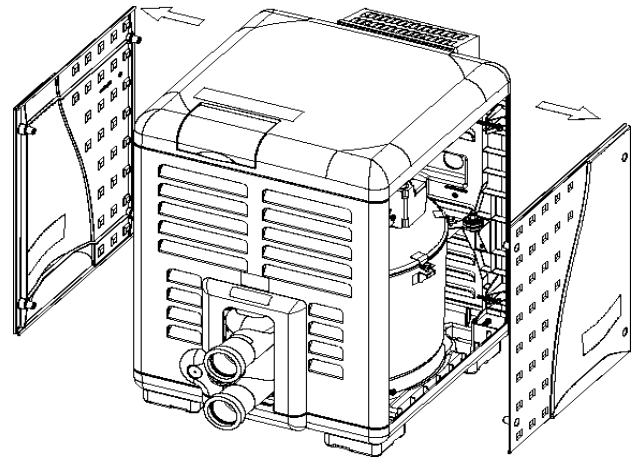

FIGURE 3: Removal of Access Door Panels
5. Remove the access door panels by unfastening the four 1/4-20 phillips head screws located on each door, then lift up and out from the bottom of the panel to remove. If necessary, the screws may be used as handles. See Figure 3.
7. Wait five (5) minutes to clear out any gas. If you then smell gas, STOP! Follow "B" in the "Before Startup" instructions (Page 4). If you don't smell gas, go to the next step.
See Figure 3, page 5.